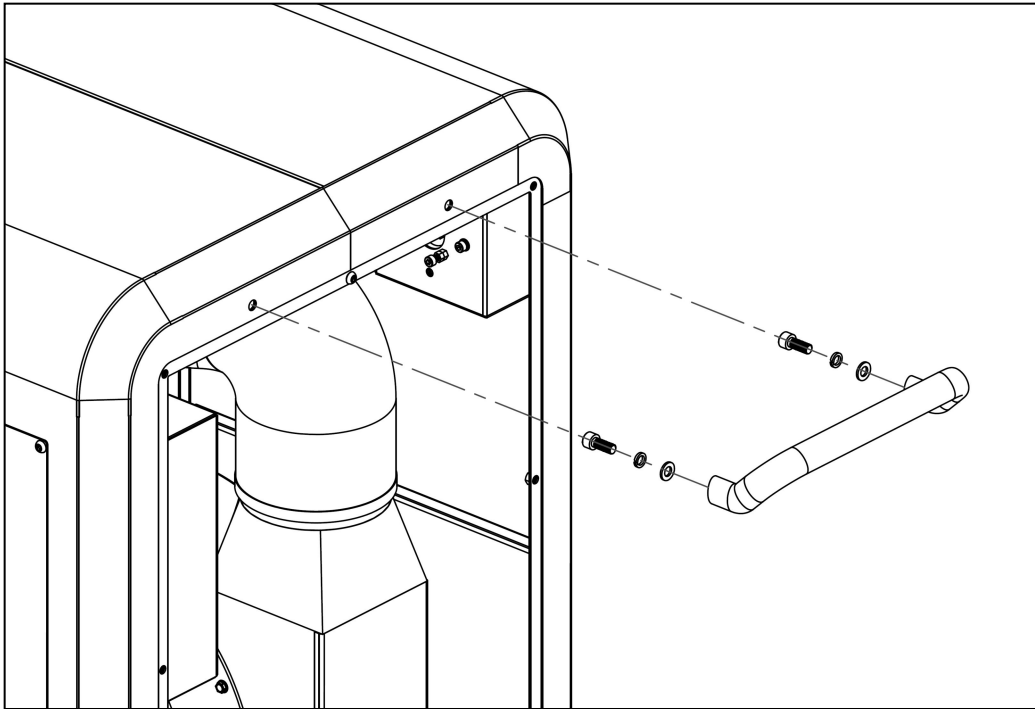

Fig.11
5. Install the handle as Fig.11. (Side cover plate need to be removed.)